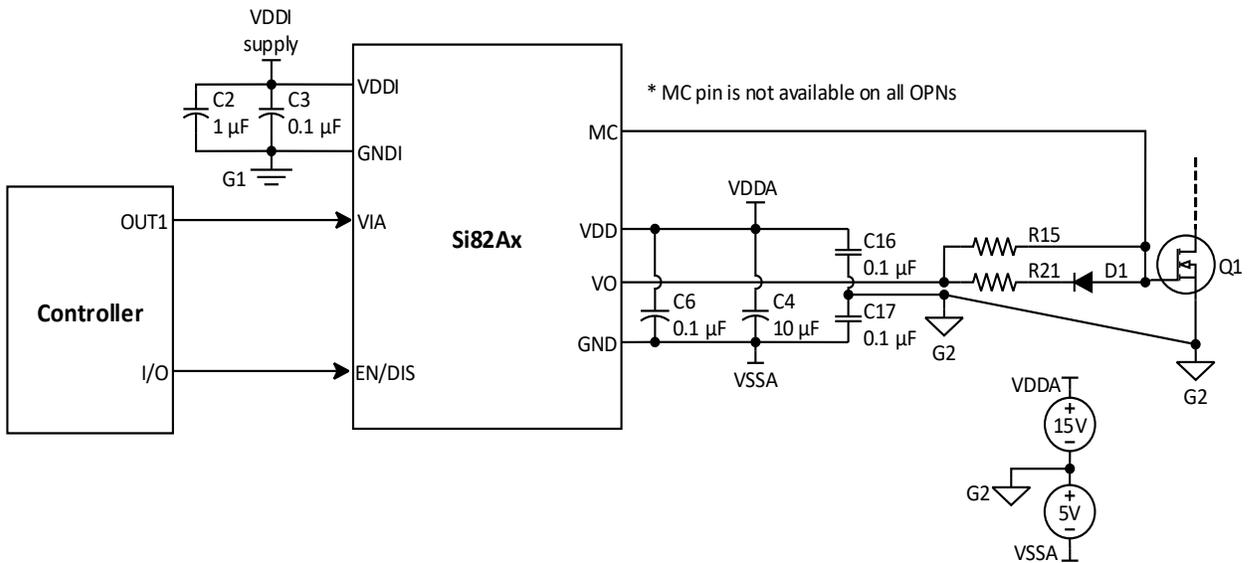

Figure 15. Bipolar Output Connection
The diagram shown in Figure 15, “Bipolar Output Connection,” on page 15 is similar to the above circuits except that the drivers produce the bipolar V_{GS} output voltage. The bipolar V_{GS} output requires the system to provide positive and negative voltage sources. Please note that the bootstrap circuit cannot be used to share the low-side voltage sources with the high-side gate driver for a bipolar V_{GS} output application. In this example, +15 V and –5 V sources are used. The voltage sources' reference G2 is electrically connected to FET Q1's source.
- If the application requires extremely high common mode transient immunity (CMTI) performance, it is recommended to add a 10 nF capacitor between each of the logic input pins and the logic input ground (GNDI), including the no connect (NC) pins. This will help improve the CMTI performance.
- If the system is designed to provide a bipolar V_{GS} output, additional bypass capacitors (C16 and C17 in Figure 15, “Bipolar Output Connection,” on page 15) are required to minimize the return path length of the gate drive signals.